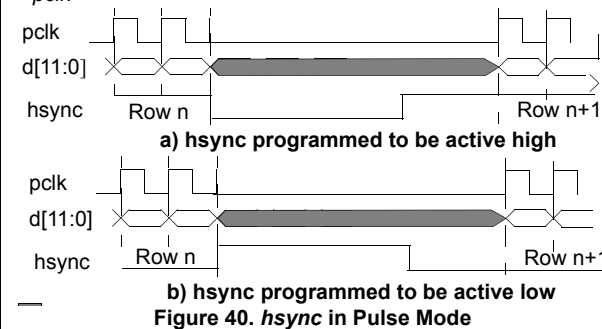

Figure 40. hsync in Pulse Mode
- Pulse mode should be used when the pixel clock, *pclk*, is programmed to operate in *data ready mode*. In pulse mode the *hsync* output pin will produce a pulse at the end of each row. The width of the pulse will be a minimum of four *pclk* cycles and its polarity can be programmed as shown in Figure 40. The *hsync* level is always synchronized to the active edge of *pclk*.